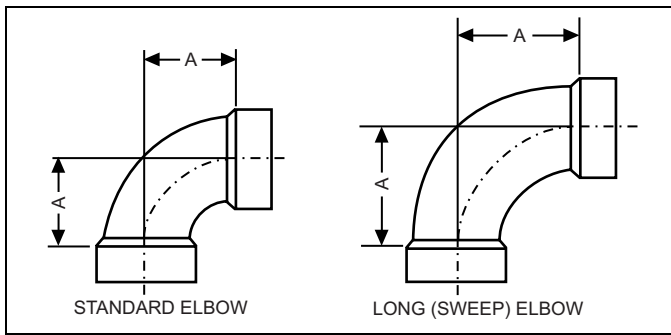

FIGURE 33: Dimensions
1. Drain, waste, and vent (DWV) elbows with a long radius (sweep) are recommended. Standard DWV elbows may be used, but since they have a longer equivalent length, they will reduce the total length of pipe that will be allowed. Short radius (plumbing or pressure) elbows are not allowed for venting. The standard dimensions of the acceptable elbows are shown in Figure 33.
Elbow	"A" Dimension (Illustrated in Figure 33)